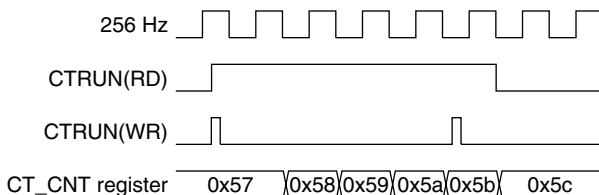

Figure 11.4.2 Run/Stop Control Timing Chart
- The clock timer switches to Run/Stop status synchronized with the 256 Hz signal falling edge after data is written to CTRUN. When 0 is written to CTRUN, the timer stops after counting an additional “+1.” 1 is retained for CTRUN reading until the timer actually stops. Figure 11.4.2 shows the Run/Stop control timing chart.